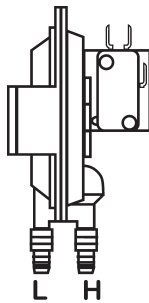

Fig. 2
AIR SAMPLING CONNECTION (FIGURE 2)
Refer to Figure 2 to identify the **High inlet (H)** and the **Low inlet (L)**. Connect the sample lines to the same port or ports as the switch being replaced.